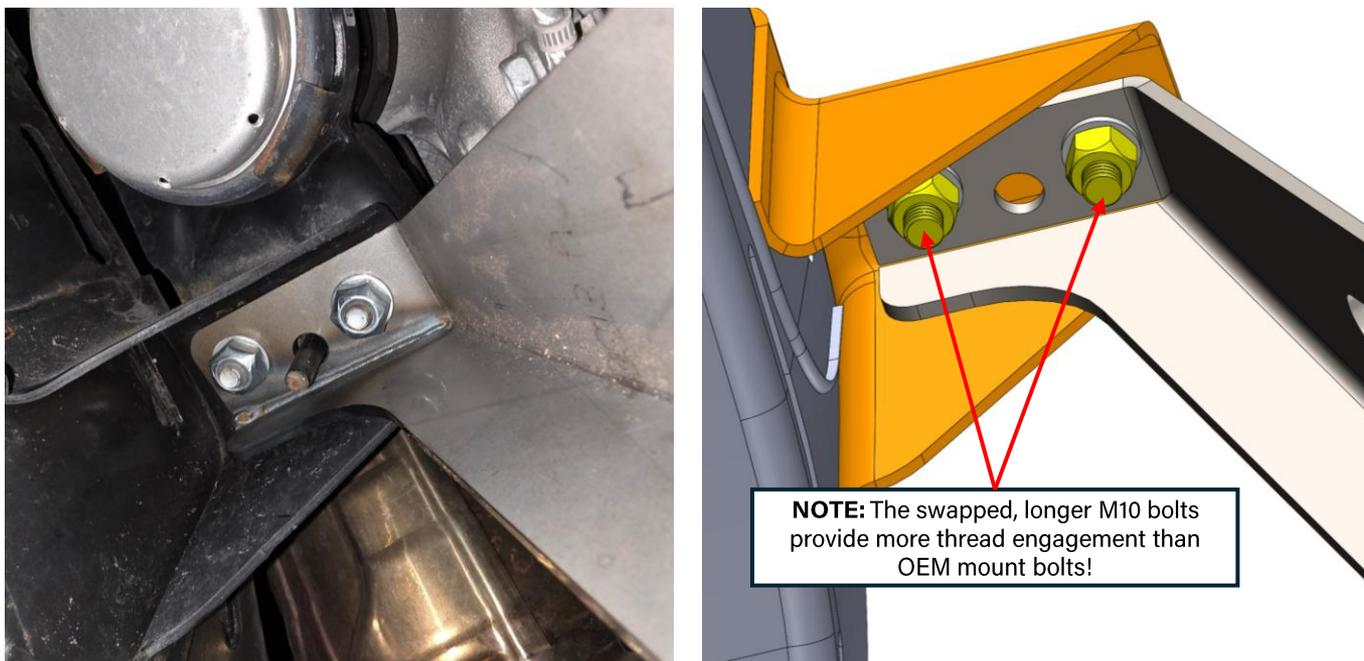

Figure 8: Motor mount bracket loosely installed
7. **Loosely** install the provided passenger-side motor mount bracket. This bracket has a clearance bend for the driveshaft. See Figure 8 below for clarification. **Install below the motor mount using the x2 provided M10 locknuts and x2 washers. Do not install the skid plate yet!**